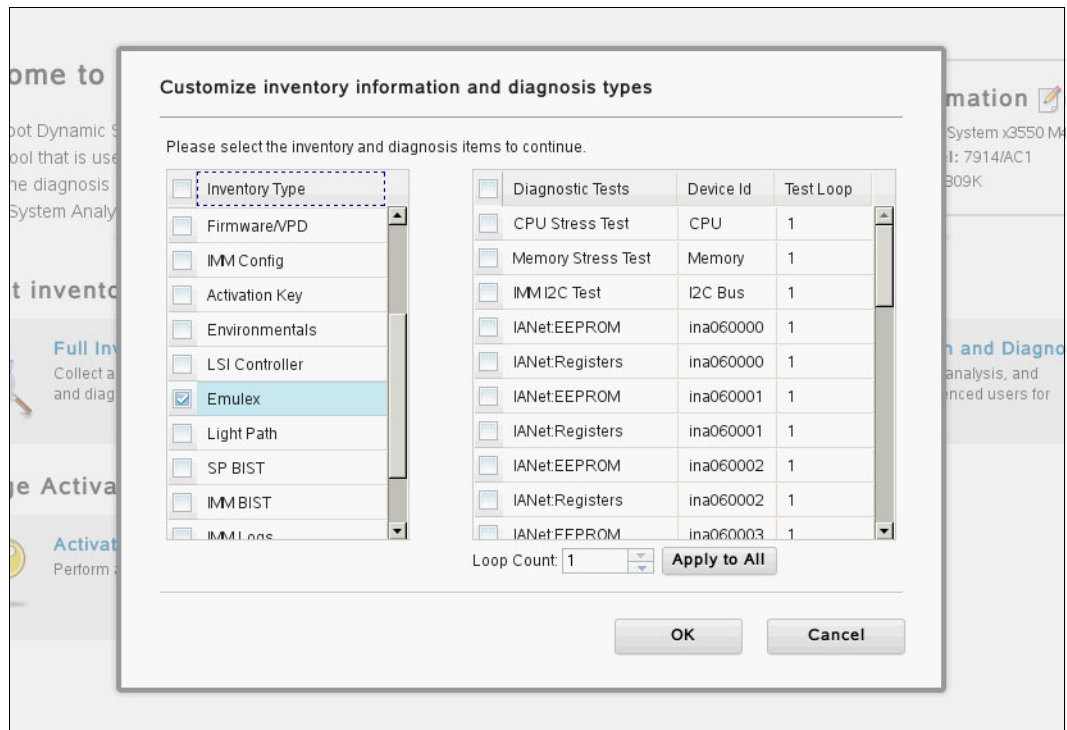

Figure 2-24 Inventory list
- Click **Customized Inventory Collection and Diagnosis** from main menu. A System Inventory menu appears, as shown in Figure 2-24. Clear all options except Emulex. Click **OK**.